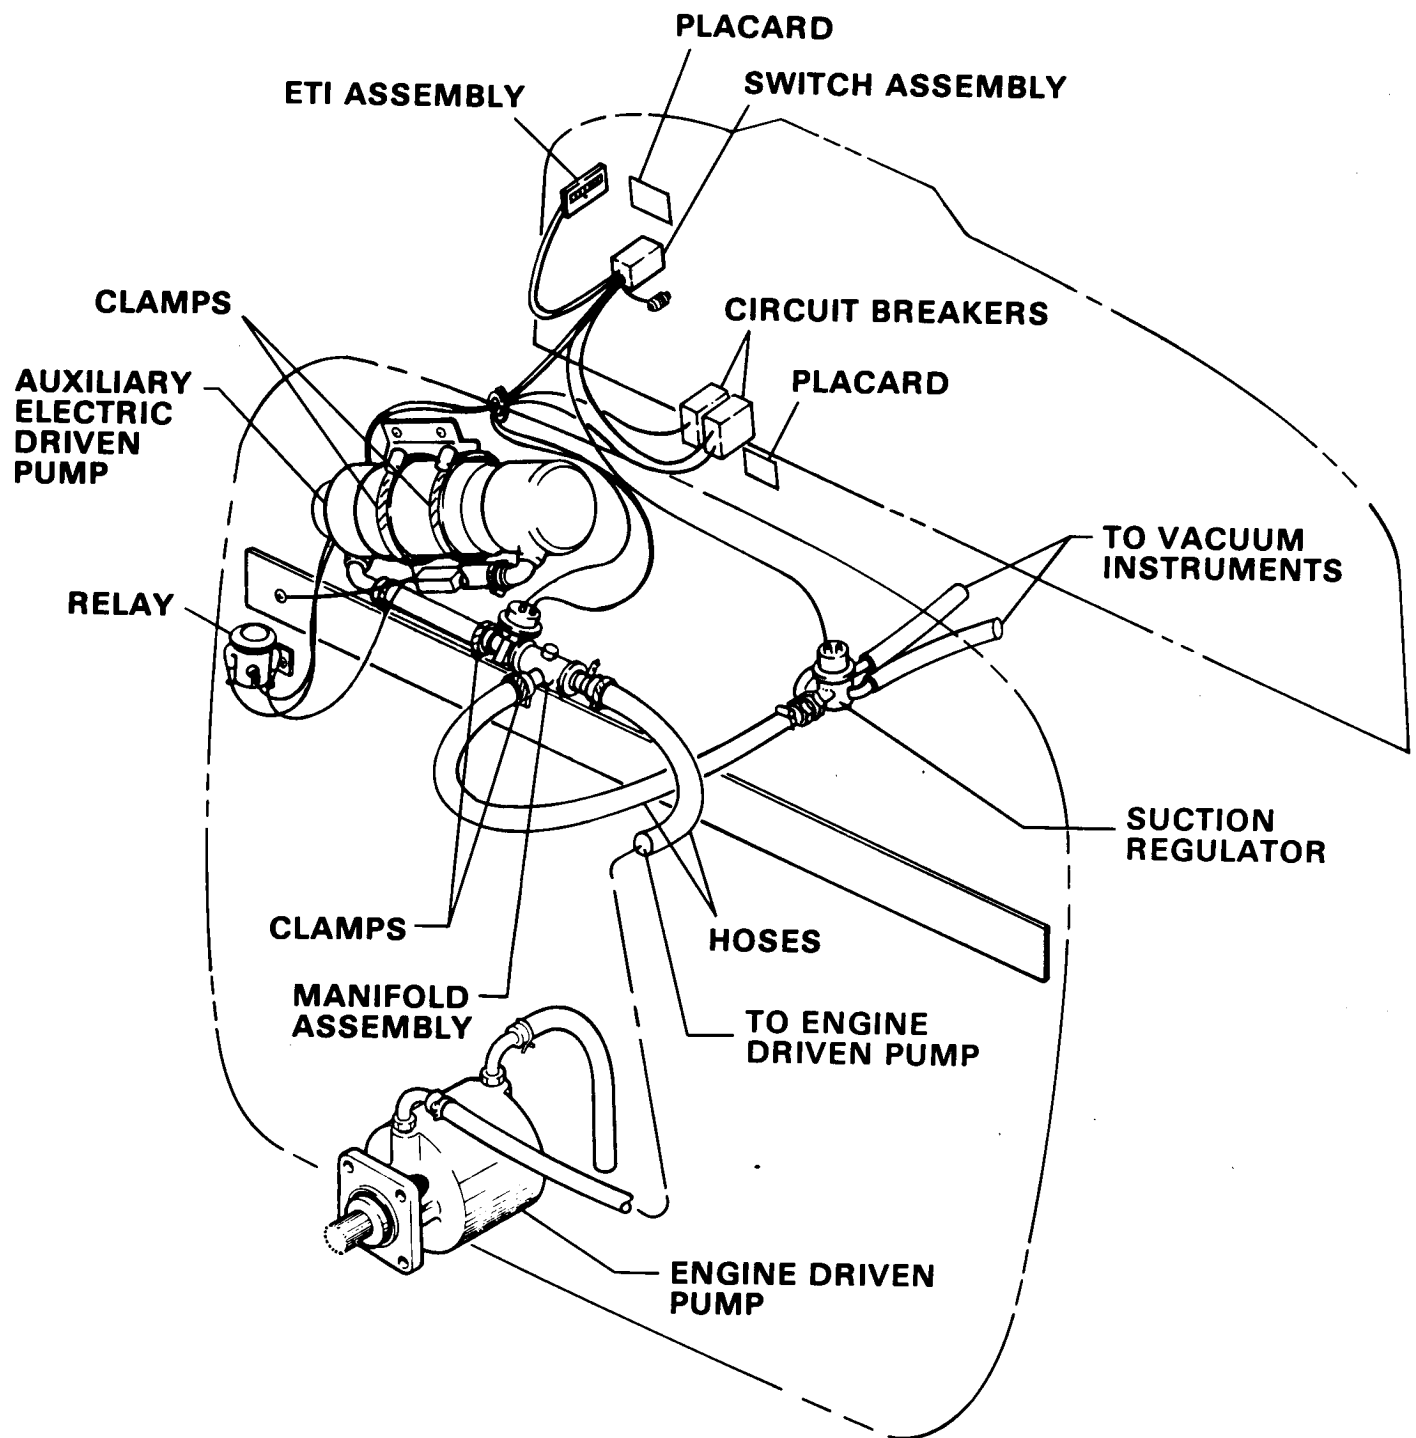

Figure 10-3. Vacuum-Auxiliary Vacuum Installation
9. Position pump/motor assembly per Figure 10-3 instructions.